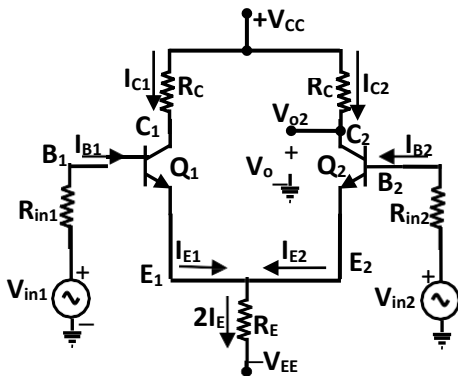

Figure 3.14: Dual Input Unbalance Output Differential Amplifier
D) Dual Input Unbalance Output Differential Amplifier: In this amplifier as shown in figure 3.14, input signals (V_{in1} and V_{in2}) are applied to the base of transistors Q_1 and base of Q_2 . The output (V_o) is measured at either of the two collectors C_1 or C_2 , with respect to ground.